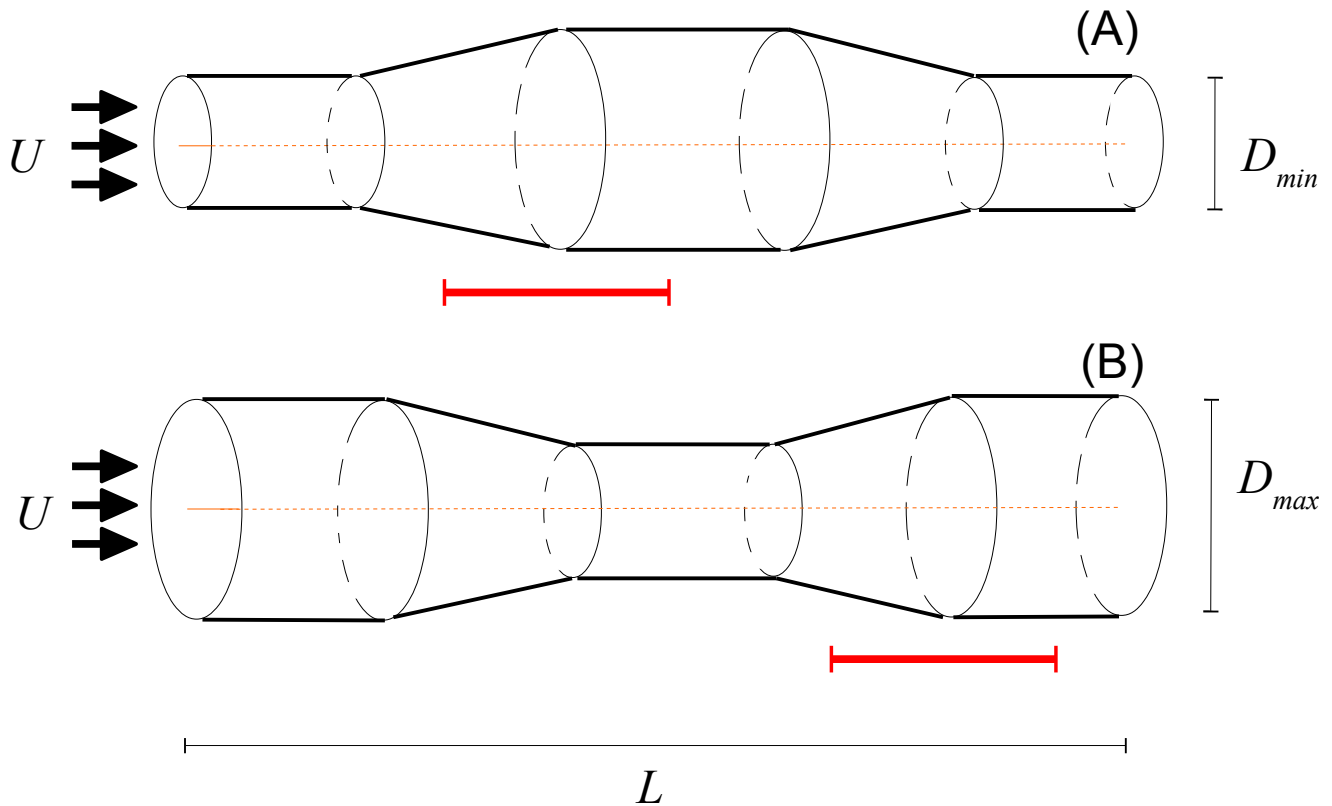

Fig. 2
Prob 2. (50%) As discussed in class, boundary-layer separation may happen in the presence of an adverse pressure gradient (i.e., with a pressure gradient force that counters the flow). Therefore, for a steady incompressible flow in a pipe with non-uniform diameter, separation is more likely to happen in a "diverging" segment (with an increasing diameter of the pipe down stream) than a "converging" segment. Use Ansys-Fluent to simulate the flow in two prototypical pipes, one with a bloated mid-section and the other with a bottleneck (cases A and B in Fig. 2, not drawn to scale), to illustrate that separation indeed happens only over the diverging segments (indicated by red bars in Fig. 2). It is up to you to design the detail of the pipes and the flow systems, but a suggested starting design for a pipe filled with water would be with $U \sim 1$ cm/s, $L \sim 1$ m, $D_{max} \sim 20$ cm, and $D_{min} \sim 10$ cm. (If the suggested setting does not work, please feel free to adjust it.) Again, use the parameter setting of "Viscous, Laminar" and "Steady solution" in Ansys-Fluent. You may use the contour or color-fill plots of u -velocity in one of the cross sections (in the same fashion as Prob 1.) to display the key outcome of the simulation. One plot for each of case (A) and (B) will suffice, but please feel free to show more cases if they serve to address the robustness of the results. Due to the axial symmetry of the system, the separation of the flow may occur randomly at a particular sector of the cylinder. In that case, it is useful to try different cross sections to get the best picture of the relevant structure of the flow.